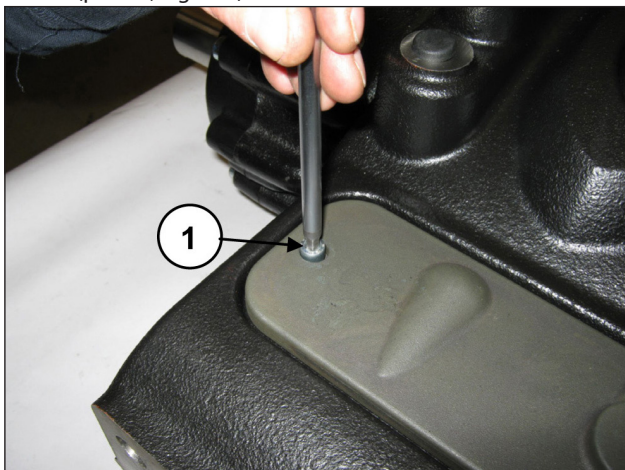

Fig. 107
Remove the upper inspection cover, unscrewing the 2 fixing screws (pos. ①, Fig. 107).